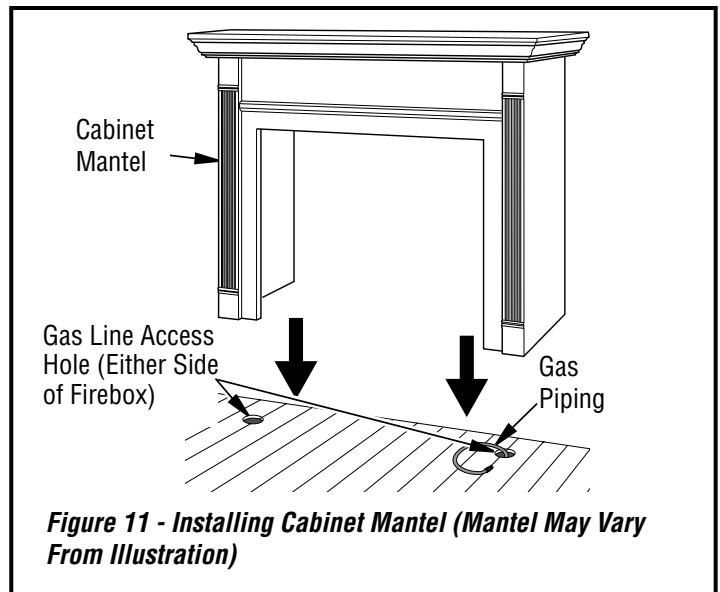

Figure 11 - Installing Cabinet Mantel (Mantel May Vary From Illustration)
2. Install gas piping to firebox location. See Gas Line Installation on Page 11. You may have to cut an access hole in the floor or wall to run gas line to firebox. Make sure to locate access hole so cabinet mantel will cover it when installed (see Figure 11).